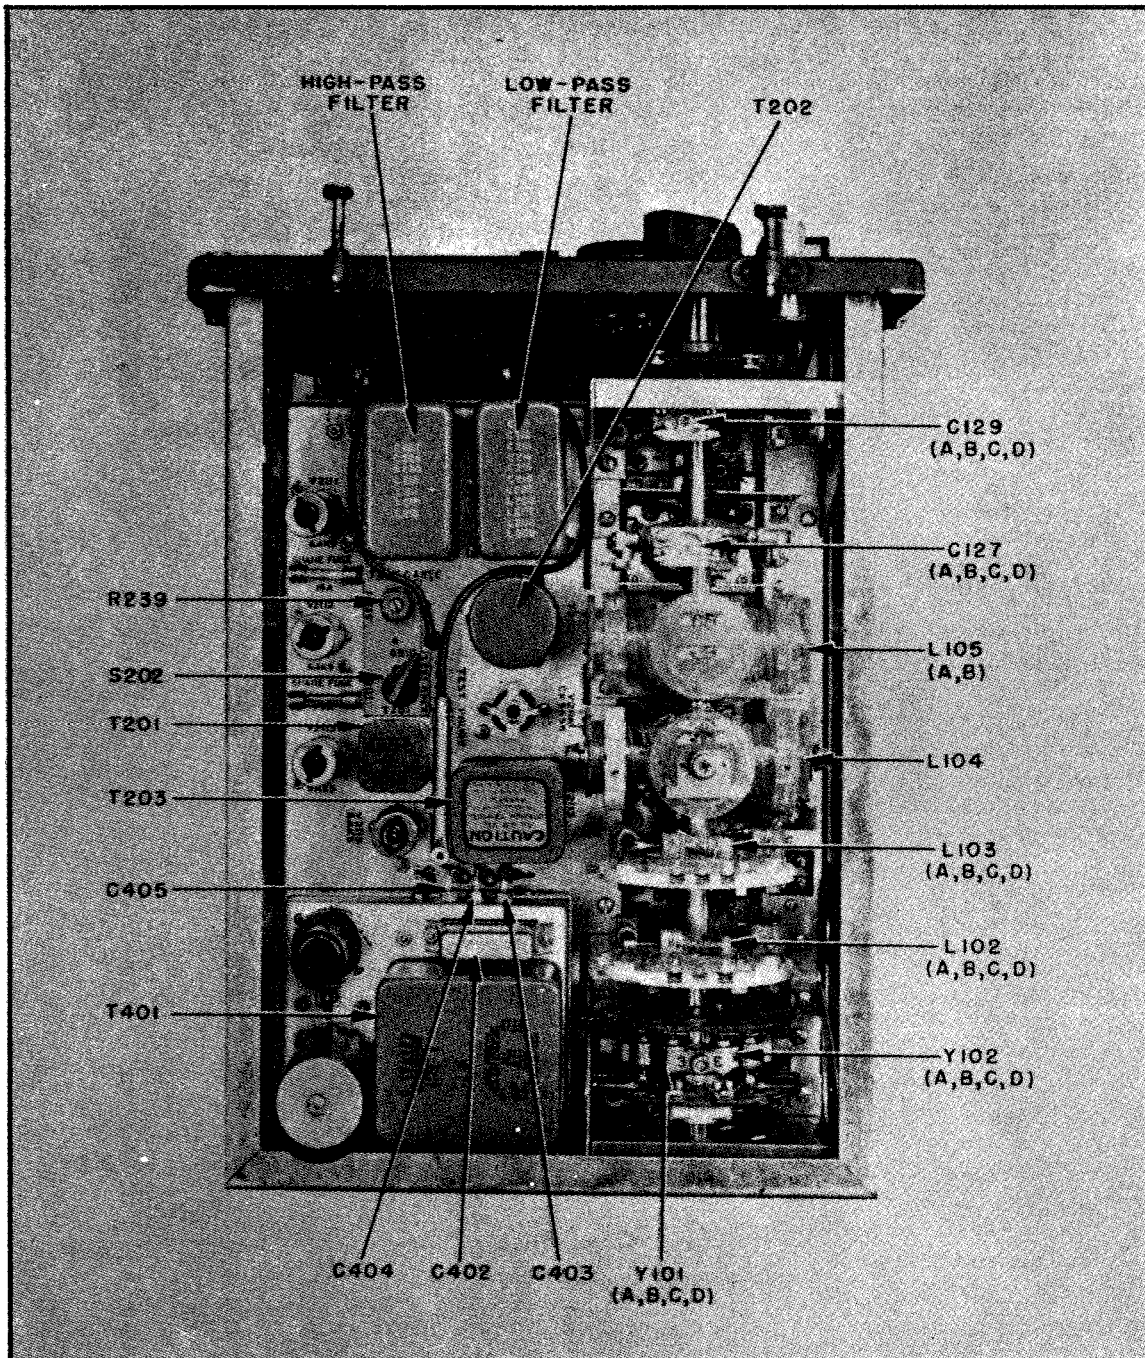

Figure 7-10.—Major Above-Chassis Components.
Microphone gain control R239 is located on the modulator chassis, as shown in figure 7-10. This control is set to its maximum (fully clockwise) position for normal speech input. Too much clipping (as evidenced by high distortion and loss of intelligibility) will result from shouting into the microphone and should be cured by lowering the voice rather than by reducing the gain. Only in persistent cases of badly distorted modulation should R239 be turned down.
(1) Unsolder the external connections to C403, C404, C405, and the adjacent ground terminal (see figure 7-10).
The low-pass and high-pass filter units on the receiver chassis (figure 7-10) are contained in individual shield cans. A notation of the individual components within each can appears on the can itself and on the schematic diagram (see figure 7-20). To gain access to any of these components, remove the two underchassis nuts from the spade bolts at diagonal corners of the appropriate shield can and lift off the cover.